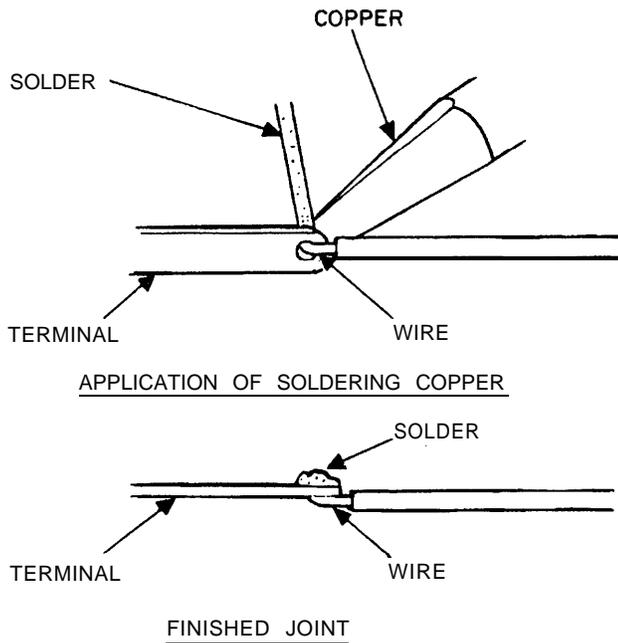

Figure 15. Soldering Wire to Perforated Terminals
6.24 Perforated terminals are those on which the wire is brought through the hole, such as: equipment units, jacks, and lamp sockets. The method of soldering is the same as that for notched terminals; however, sufficient solder should be used to fill the hole. This insures that a good electrical and mechanical connection has been made (Figure 15). At perforated terminals with oblong holes, such as relay terminals, it is not objectionable if an occasional hole is not filled with solder since the soldering surface on these